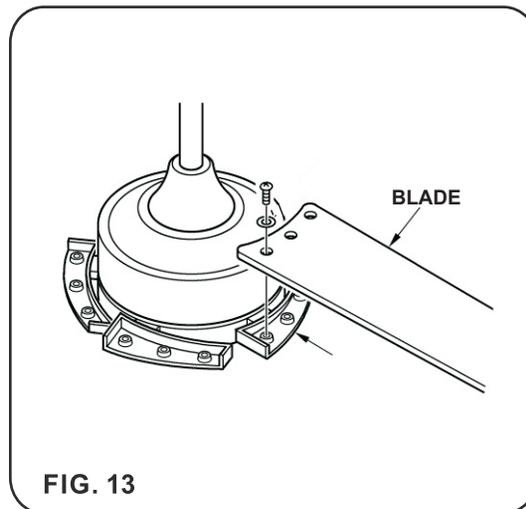

FIG. 13
Step 1. Attach the fan blades to the blade holders using the screws and fiber washers provided, tighten screws and fiber washers securely. Repeat process with other blades. (Fig. 13)